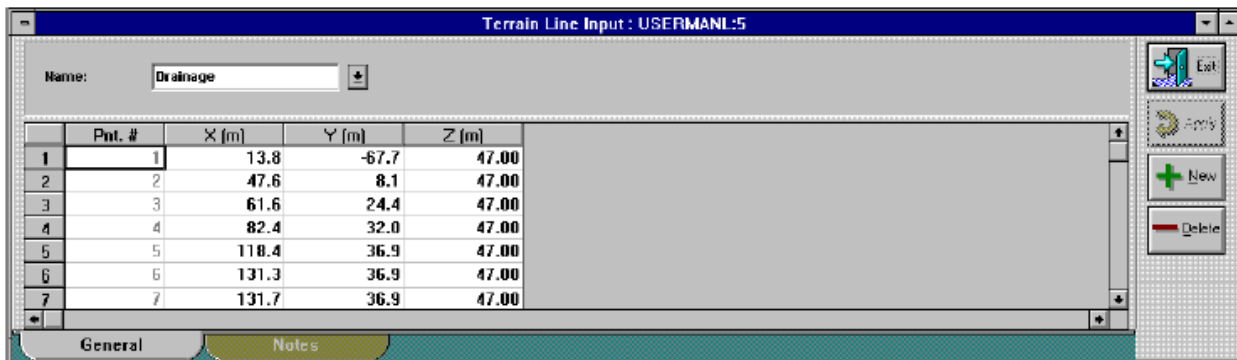

Figure 43. Terrain-line input: General tab.
2. Select **General** on the terrain-line input dialog (see Figure 43).